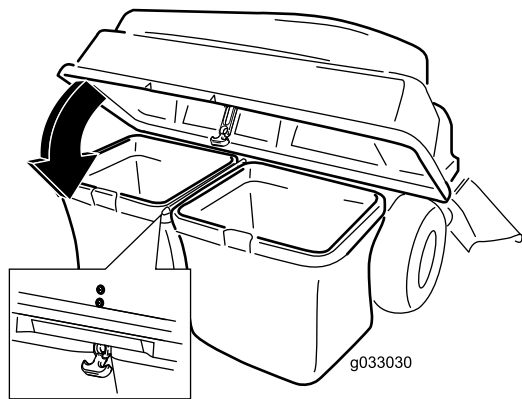

Figure 22
- Lower the bagger top onto the bags (Figure 22).
- Secure the hood with the latch (Figure 22).